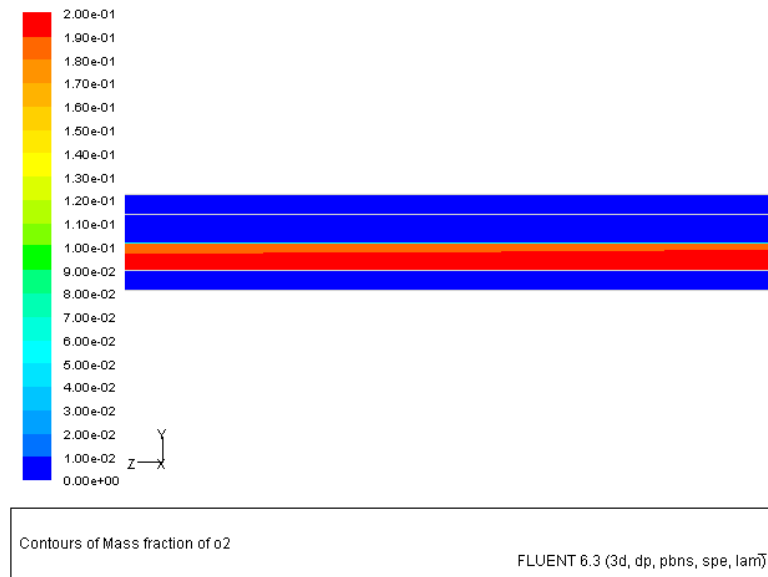

Figure 7: Contours of Oxygen Mass Fraction Along the Channel Length
- (b) Compare your result with that shown in Figure 7. *The flow in the cathode (lower) channel is from right to left. As expected, the oxygen mass fraction decreases in the direction of flow.*